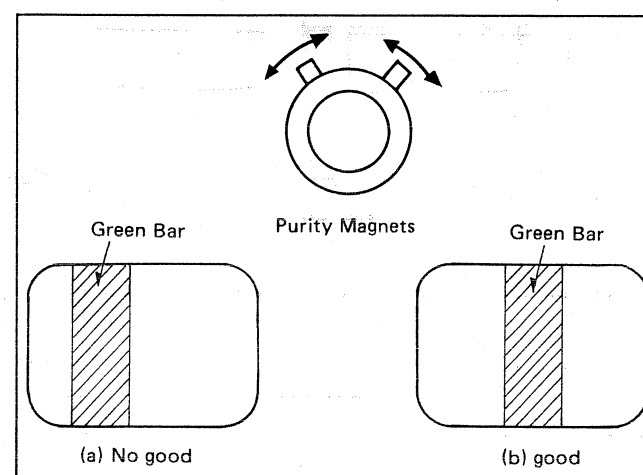

Fig. 17
7. Remove the silicone sealer and adjust the purity magnets so that a green field is obtained at the centre of the screen as shown in Fig. 17.